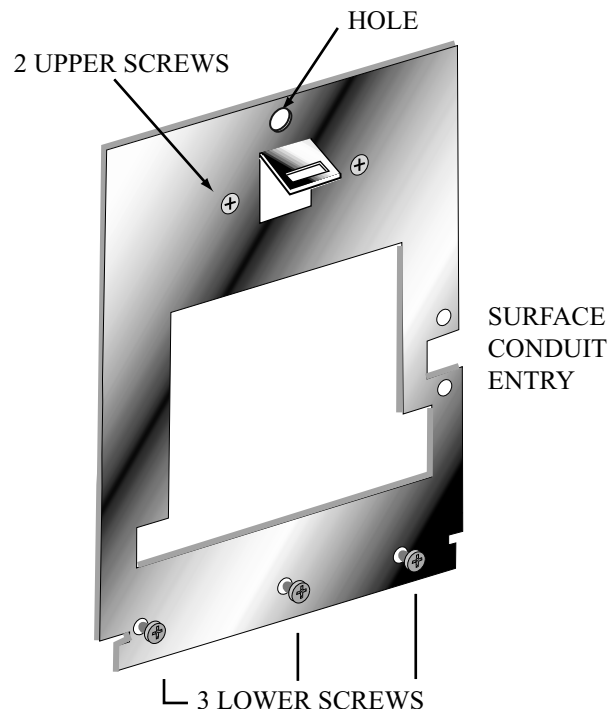

Figure 5-1: Wall Plate
1. Remove the wall plate from the packing carton. Refer to Figure 5-1 for all wall plate references in the following section.